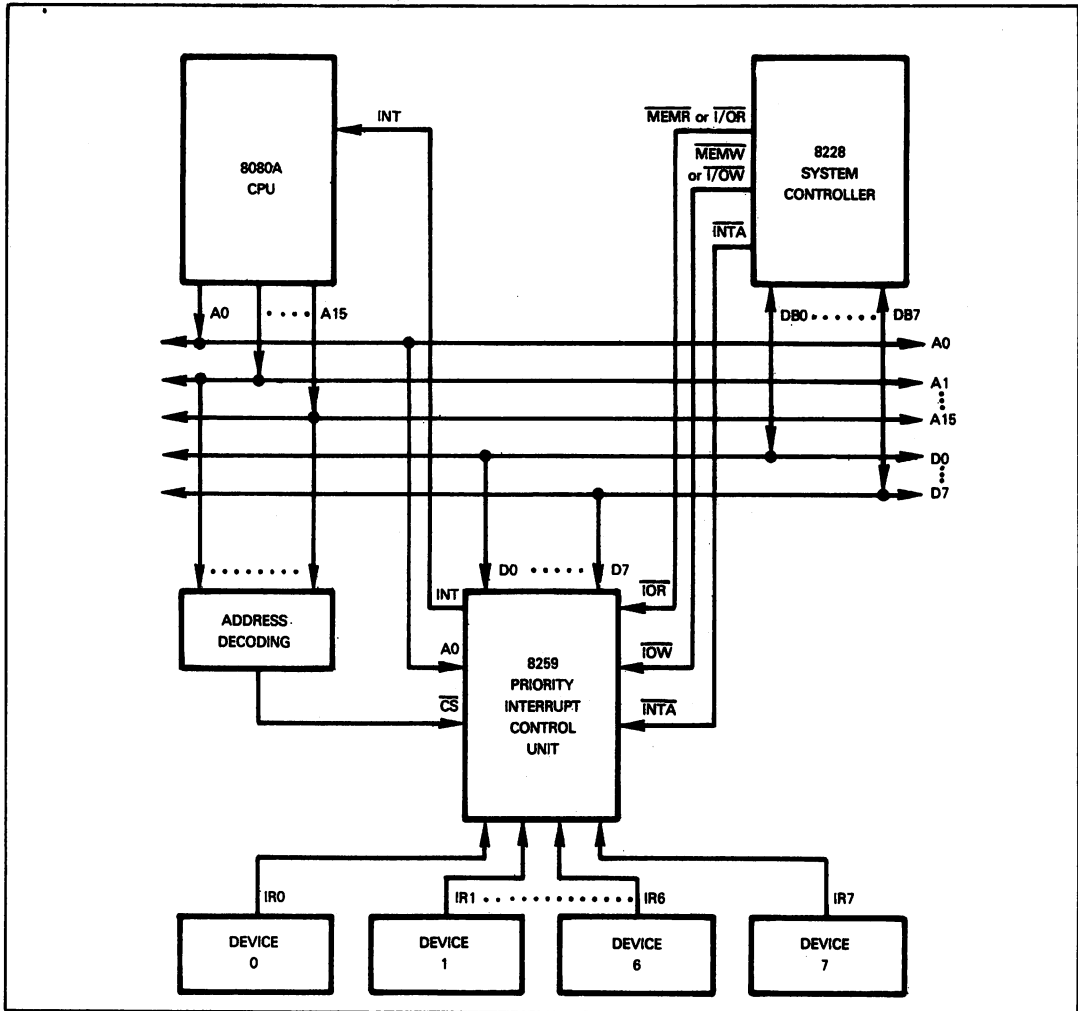

Figure 4-36. A System With One PICU
**External devices requesting interrupt service have their request signals connected to  $\overline{\text{IRO}} - \overline{\text{IR7}}$ .** A high level on any one of these signals will be interpreted as an interrupt request. **An interrupt request is passed on to the CPU via the  $\overline{\text{INT}}$  signal.** This is illustrated in Figure 4-36.